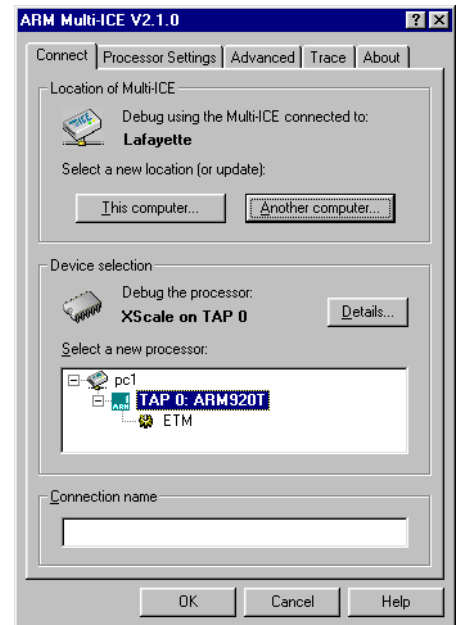

Figure B-13 Multi-ICE configuration dialog box
4. Click on **Configure** to display the ARM Multi-ICE 2.0.1 configuration dialog box (Figure B-13 on page B-19).